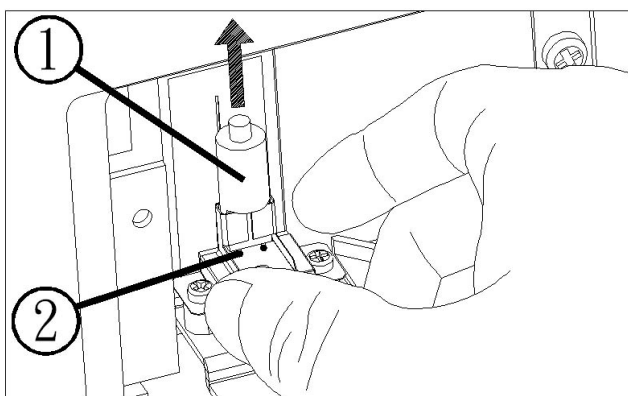

Figure 5a: Lamp change
4. Pull the old lamp (#1) straight up to remove it from socket as shown in figure 5a above.